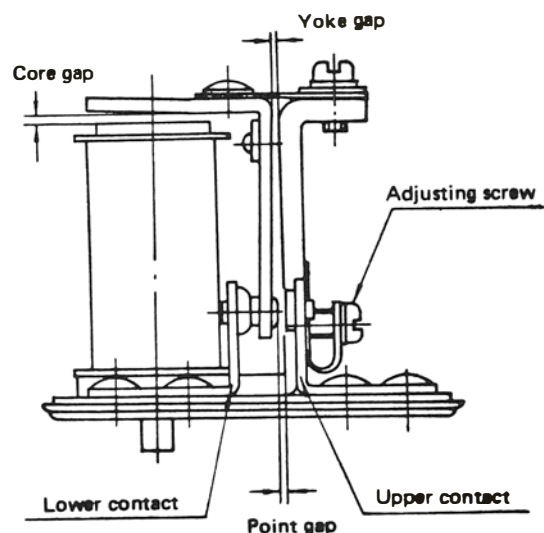

Figure 17
5. Inspect the yoke gap, the core gap, and the point gap, Figure 17, and adjust in that sequence to the specified value, page 63.
adjusting screw, Figure 17, until the voltmeter indicates 13.5-14.0 volts. The charging current to the battery should read 10 amperes or less when the voltage regulator has been adjusted.